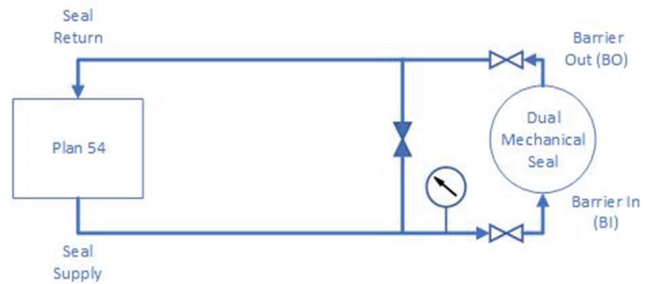

Figure 3: Recommended Barrier Fluid Piping
5. If the interconnecting piping was installed as show in Figure 3, bypass each seal serviced by this system. This will reduce any construction debris from entering the seal.